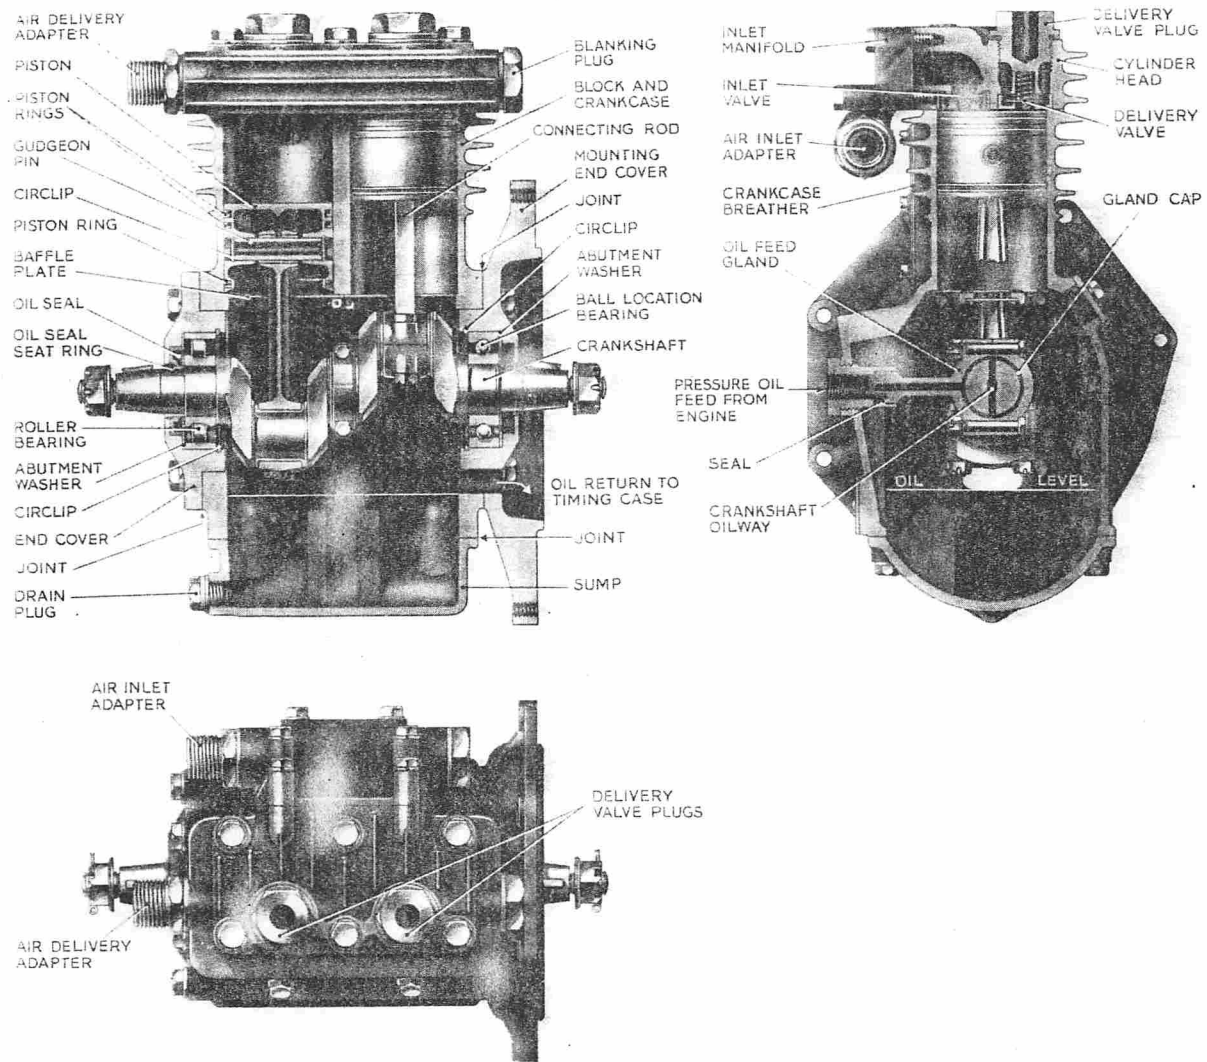

FIG. 95. SECTION THROUGH COMPRESSOR, TYPE PC/GA66
The two alternative types of compressor, shown in Figs. 95 and 96, are substantially the same, the main differences, being the method of lubrication and the air inlet.
Type PC GA66 (Fig. 95)
6. On type PC/GA66 having pressure oil feed from main engine, fit the seal housing to compressor crankcase side taking care not to damage the oil seal when locating the oil-feed gland from the centre journal of the crankshaft (Fig. 95).